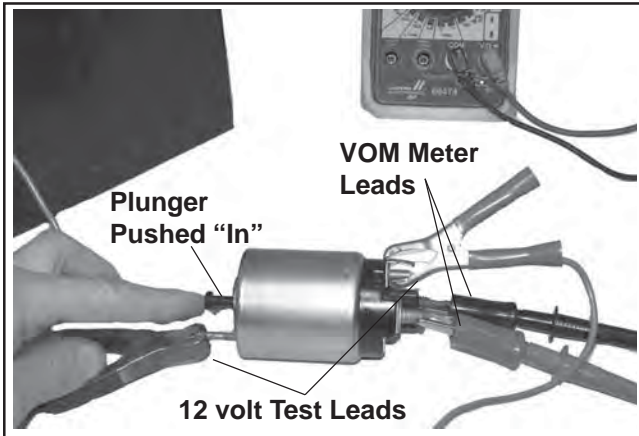

Figure 8-31. Testing Hold-In Coil/Solenoid Contact Continuity.
Use an ohmmeter set to the audible or Rx2K scale, and connect the two ohmmeter leads to the two large post terminals. Perform the preceding test (3) and check for continuity. See Figure 8-31. The meter should indicate continuity, if no continuity is indicated the solenoid should be replaced. Repeat test several times to confirm condition.